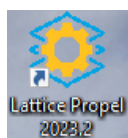

Figure C.43. Propel Application
1. Double-click **Lattice Propel SDK 2023.2** to open the dialogue box as shown in Figure C.43.